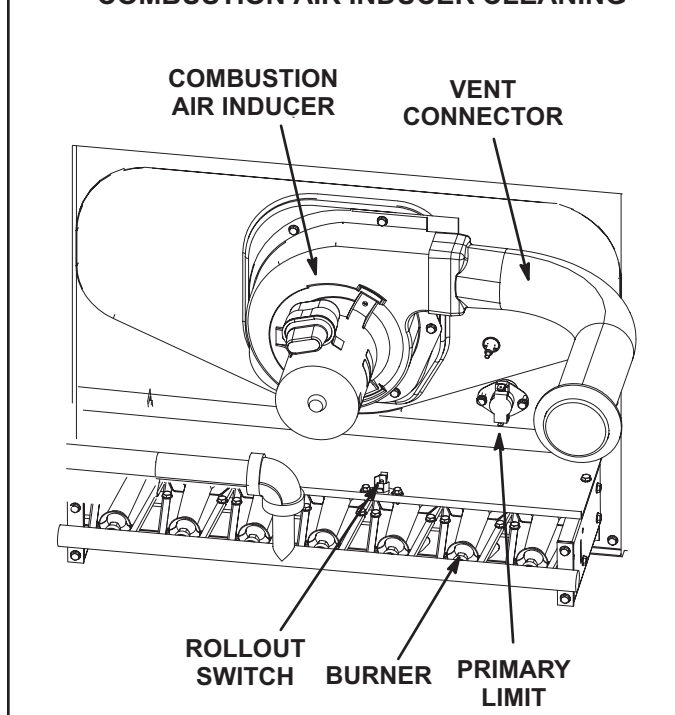

FIGURE 22
- 3 - Remove and retain screws securing combustion air inducer to flue box. Remove and retain two screws from bracket supporting vent connector. See FIGURE 22.